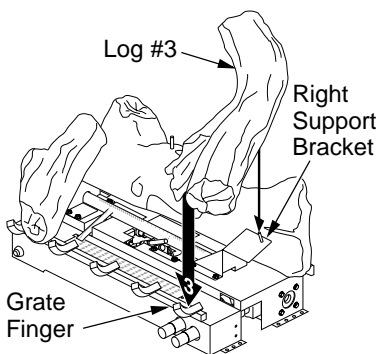

Figure 26 - Installing Right Log (#3)
- Place left end of front log (#4) under left side log (#2). Align hole in bottom of right end of log #4 with peg in front of right support bracket (see Figure 26). Lower log onto peg.